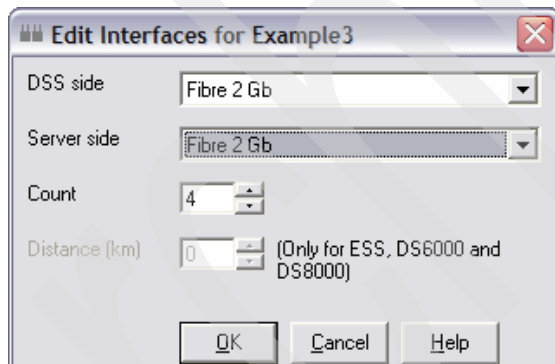

Figure 4-82 Planned System i5 FC adapters
- e. On the Interfaces tab, select the From Servers tab and click **Edit**. The Edit Interfaces window (Figure 4-82) opens. Enter the planned number and type of System i5 FC adapters. In our example, the customer plans for four FC adapters 2787, so we leave the default value of 4 for Count. However, for Server side, we select **Fibre 2 Gb**. Click **OK**.